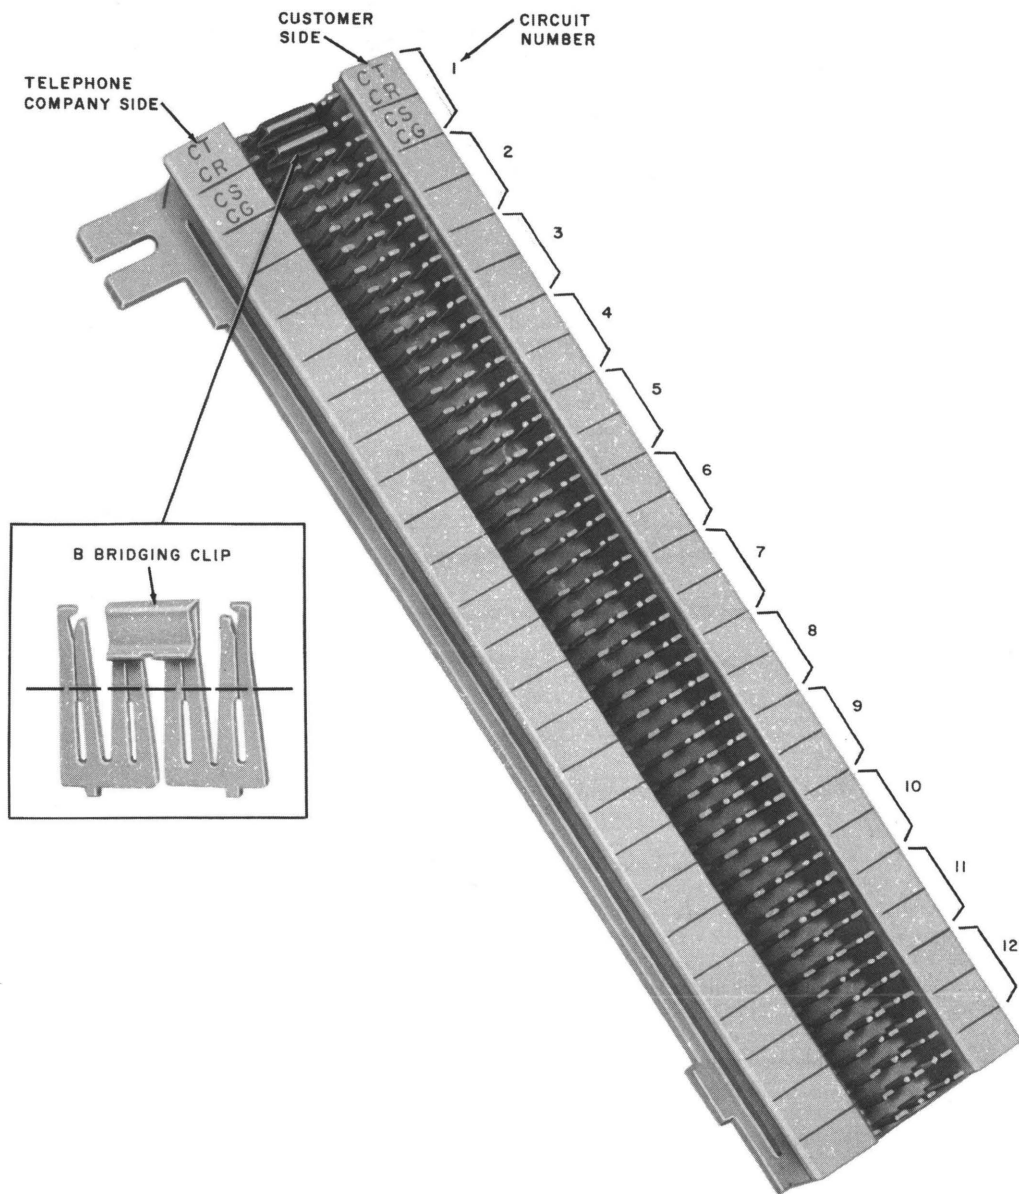

Fig. 3—66M1-50 Interface Connecting Block
- Block, Connecting, 66M1-50 (as required, Fig. 3).
- Clip, Bridging, B (as required, Fig. 3).
- 3.05** Leads associated with each circuit to a CP intercom line should be terminated on a 66M1-50 connecting block and lead designations should be stenciled (Fig. 3).
**3.11** Extend leads to the CP equipment from the 66B4-25 connecting block and 400D KTU No. 2 to the 66M1-50 interface connecting block. Stencil lead designations on the fanning strip of the 66M1-50 interface connecting block, Fig. 3.
**3.17** Extend leads to the CP equipment from the 66B4-25 and 400D No. 2 to the 66M1-50 interface connecting block. Stencil lead designations on the fanning strip of the connecting block, Fig. 3.